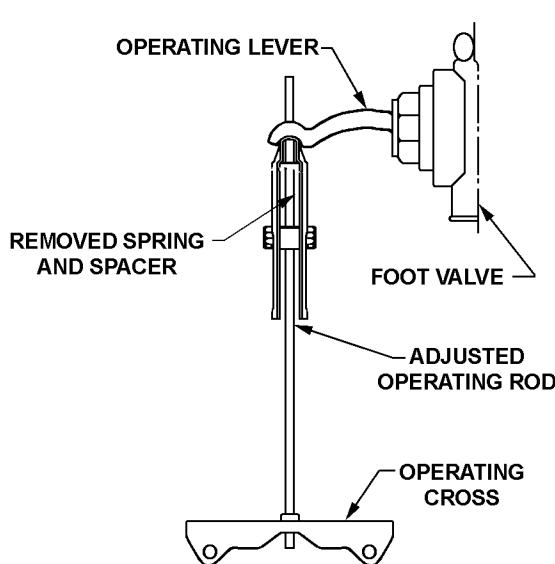

Figure 12
2. When movement of the operating rod is insufficient to open the foot valve, disassemble the rod and remove the spacer and override spring. Reassemble the operating rod as shown in Figure 12. Reinstall and adjust so that the foot valve is completely open when the foot lever is fully depressed. This prevents damage to the foot valve due to the absence of the override spring.